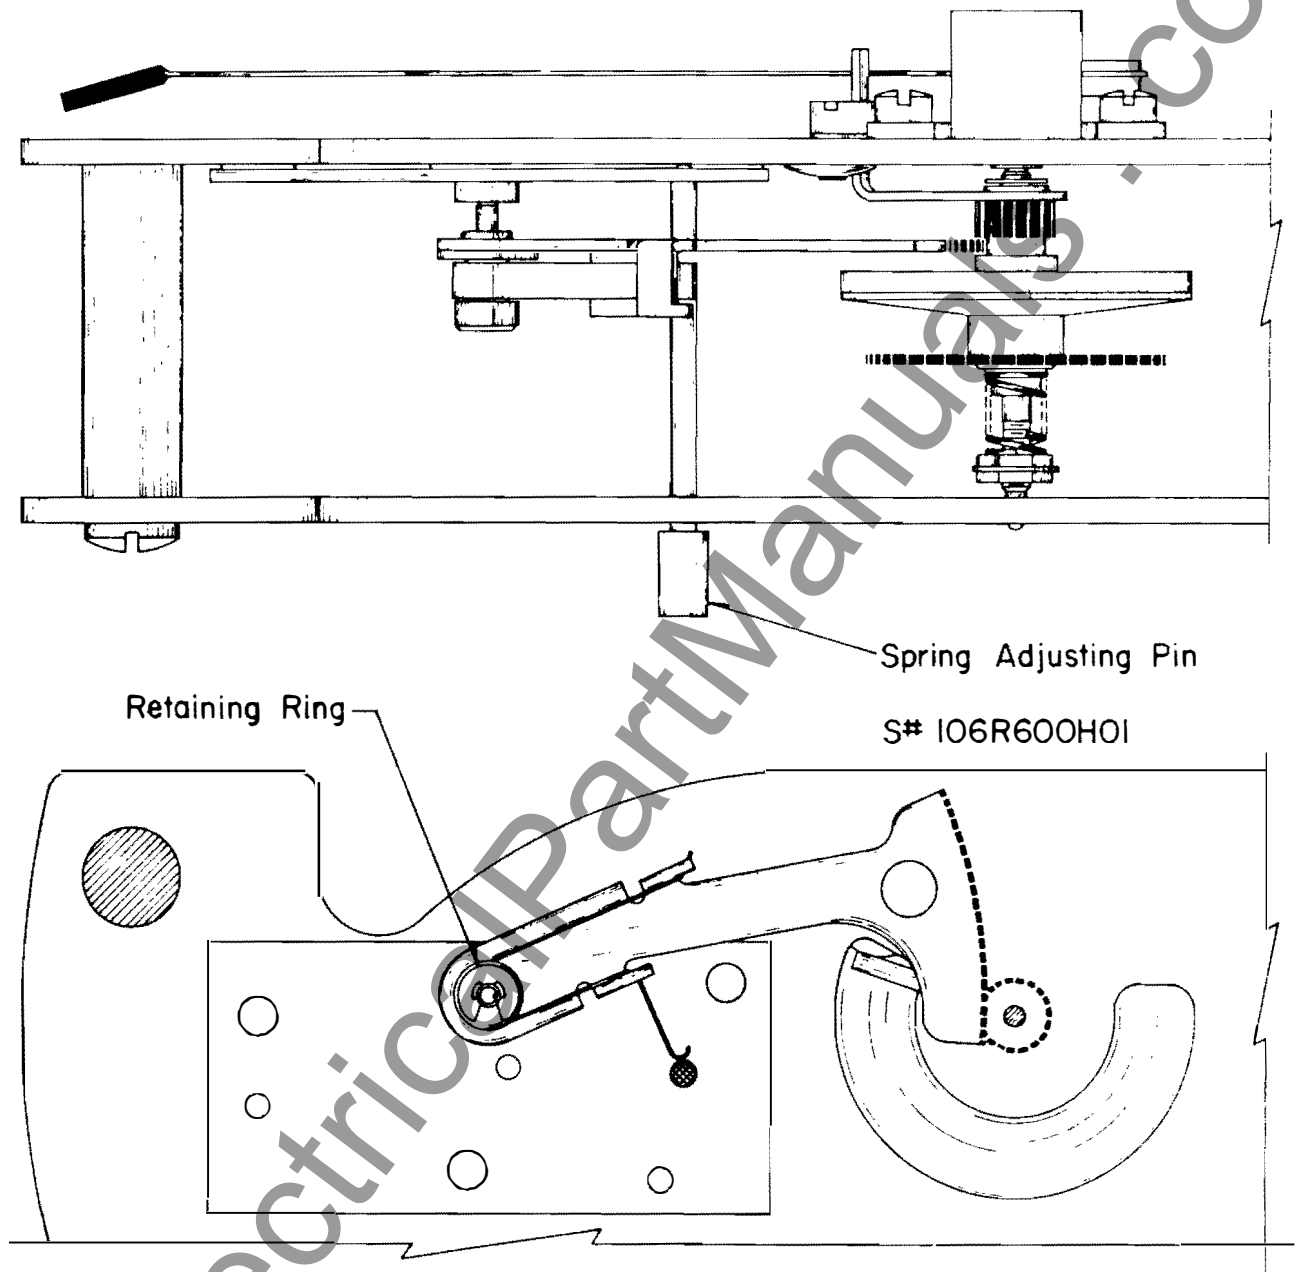

Fig. 7 Sector Adjustment
23. Sector Gear Mesh Adjustment (Fig. 7)